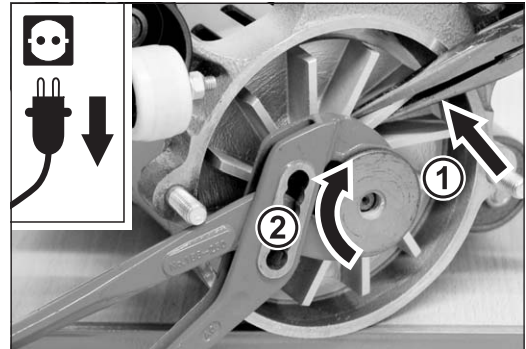

Fig. 48 Use the two pairs of pliers to tighten down the motor pulley.
- 7 Use the two pairs of pliers to tighten down the motor pulley (fig. 48).